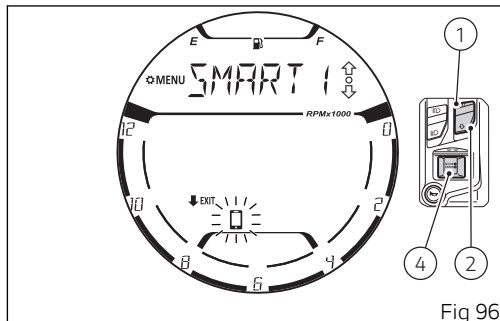

Fig 96
The name of the device selected from the previous list will remain displayed and the smartphone symbol will start flashing " 📱 " (Fig 96). Use buttons (1) and (2) to scroll the symbols relevant to the type of device in the following order: